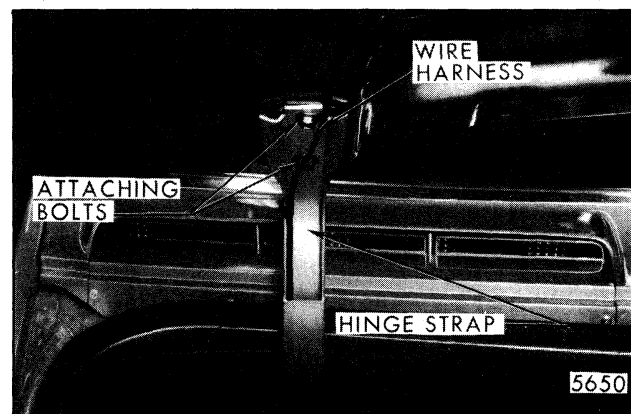

Fig. 7-2-Typical Rear Compartment Hinge to Lid Attachment - Buick "E" Shown
1. Fore, aft and lateral adjustment of the lid assembly is controlled by the hinge strap to lid attaching bolts. To adjust lid, loosen hinge strap to lid attaching bolts (Fig. 7-2) and shift lid to desired position; then tighten bolts.
4. With aid of helper, remove attaching bolts securing hinges to lid and remove lid (Fig. 7-2 depicts typical hinge).